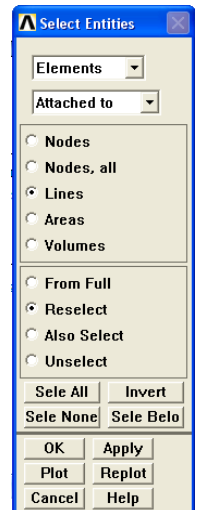

Fig. 2.7 – Select elements
2) Simulate a linear load. A positive direction of linear load is the direction opposite the OY axis. Select the elements belonging to line 1: **UM** → **Select** → **Entities** → **Lines By Num/Pick** → **Line 1**. Then, instead of **Lines**, select **Elements, Attached to Lines, Reselect** (only the selected line is used) → **OK** (Fig. 2.7). After clicking **Plot Elements**, you will see only the selected items; To apply the load: **PrPr** → **Loads** → **Define Loads** → **Apply** → **Structural** → **Pressure** → **On Beam** → **Pick All**, **Vall=40000** → **OK**. Select now the hidden lines and elements: **UM** → **Select** → **Everything**;
2) Display the deformation of the model relative to the OY axis (Figure 2.7), combined with an undeformed model: **MM** → **General Postproc** → **Plot Results** → **Contour Plot** → **Nodal Solu** → **DOF Solution** → **Y-Component of displacement**, in the column **Undisplaced shape key Deformed shape with undeformed model**